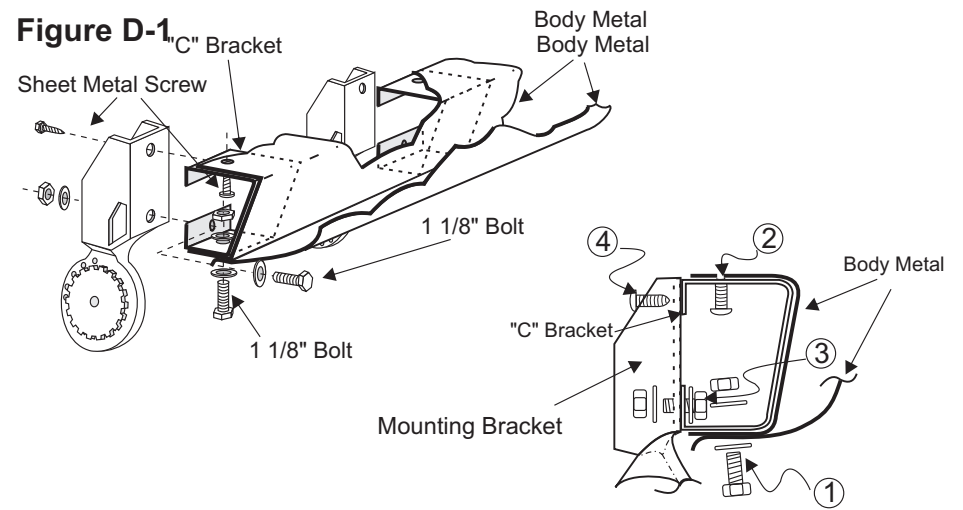

Figure D-2
4. Position the "C" Bracket against the Mounting Braces (see Fig. D-2). Center the front top hole of the "C" Bracket together with the top hole on your Mounting Brace, then mark the bottom hole on your Mounting Brace through the bottom hole of the "C" Bracket. Drill a 3/8" hole through the marked point on your Mounting Brace. Repeat this procedure to all (4) Mounting Braces.